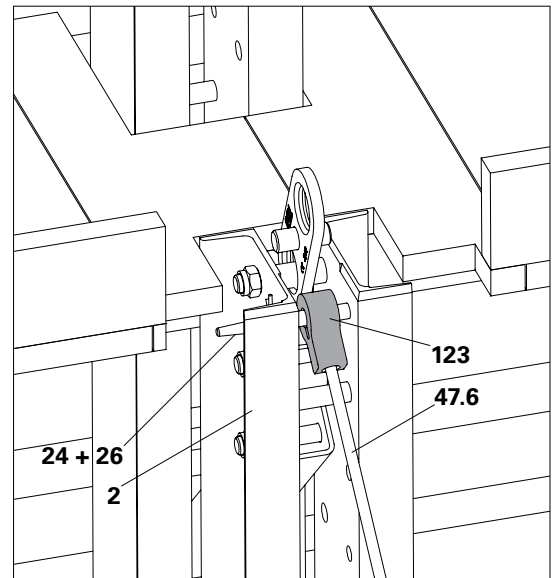
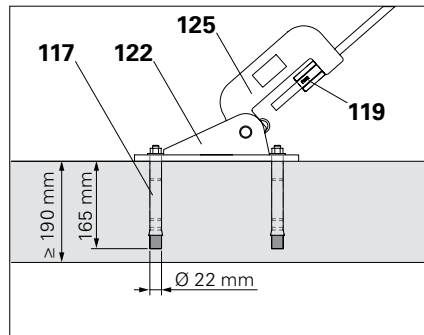

Fig. D1.09a
Fig. D1.09b
1. Turn Tie Rod (47.6) in the eye nut (123) (Fig. D1.09a)
2. Connect Tie Rod to Articulated Spanner (125) by means of nut DW 15 (119).
3. Mount eye nut (123) in the Climbing Rail RCS (2) using the fitting pin  $\varnothing$  21 x 120 (24) and cotter pin (26) whilst standing on the platform.
4. Connect Articulated Spanner (125) to the Bracing Shoe RCS DW15 (122) with the fitting pin. (Fig. D1.09b)
7. Attach Bracing Shoe with heavy-duty dowels (117) (4 x Ø 22) or (118) (2 x Ø 30) (Fig. D1.09b - D1.09e).
8. Turn the nut (119) in a clockwise direction in order to pre-tension the bracing.